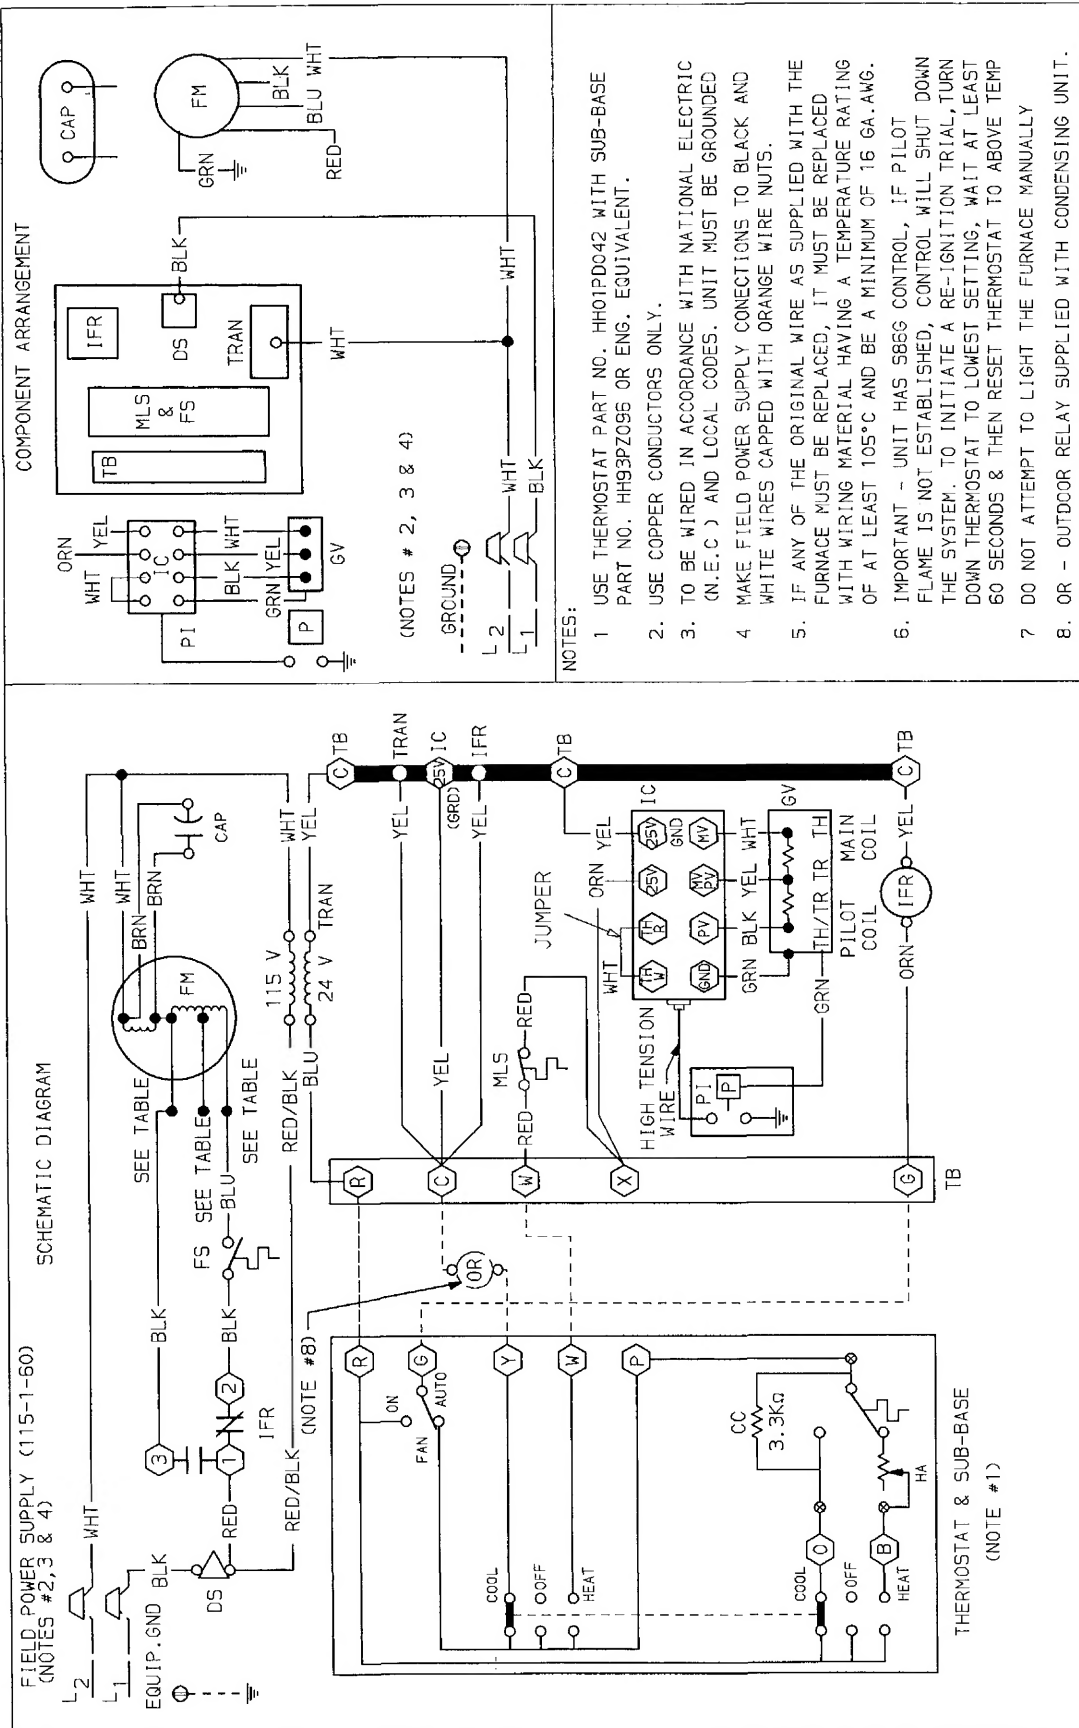

Fig. 6 — 58ED Furnace Wiring Label — Heat/Cool
Step 7 — Make Electrical Connections — The control system depends on the correct polarity of the power supply. Connect field power wiring and field ground wire as shown in Fig. 6 and 7.
LEGEND (FIG. 6 and 7)